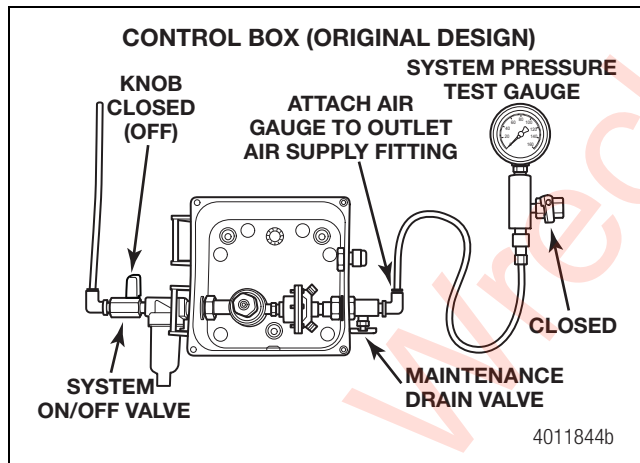
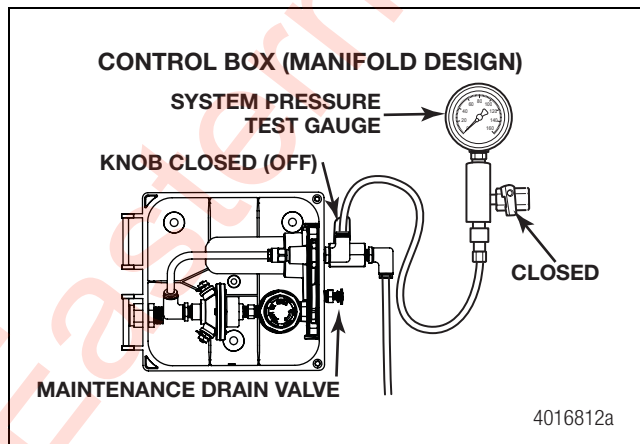

Figure 3.13
Figure 3.14
2. Turn the supply line ball valve to the closed position. Figure 3.13 and Figure 3.14.
3. Open the maintenance drain valve to deplete all air pressure from the system. Close the valve. Figure 3.13.
4. Remove the outlet air supply line from the fitting on the air pressure outlet side of the control box. Connect the test gauge to the outlet air supply fitting. Figure 3.13.